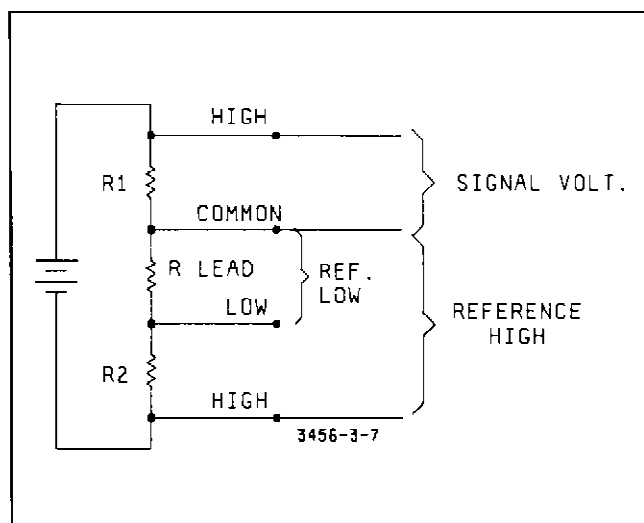

Figure 3-7. Typical Ratio Measurement.
c. Typical Ratio Measurement. Matching resistor values for an accurate voltage divider is one way to use the 3456A's Ratio feature. Try this by using the set up in Figure 3-7. Connect the instrument as indicated in the figure. Make sure that REFERENCE LOW is connected at the top of R2 and that Signal (Volts) Common is connected at the bottom of R1. Once the instrument is connected and placed in the DCV/DCV Ratio mode, a Ratio Measurement is made. The voltage drop across R1 and R2 is measured including any offset voltages between Signal Common and Reference Low. The offset voltage is used to compensate for any error causing voltages between the input and resistors. Once all the measurements are taken, the Ratio Measurement is displayed on the front panel. If the resistors are equal in value, the reading should be approximately "1.00000".